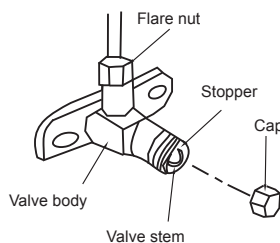

Fig. 7-5
- All the stop valves should be opened before test operation. Each air conditioner has two stop valves of different sizes on the side of the outdoor unit which operate as Lo-stop value, respectively. (Refer to Fig. 7-5)